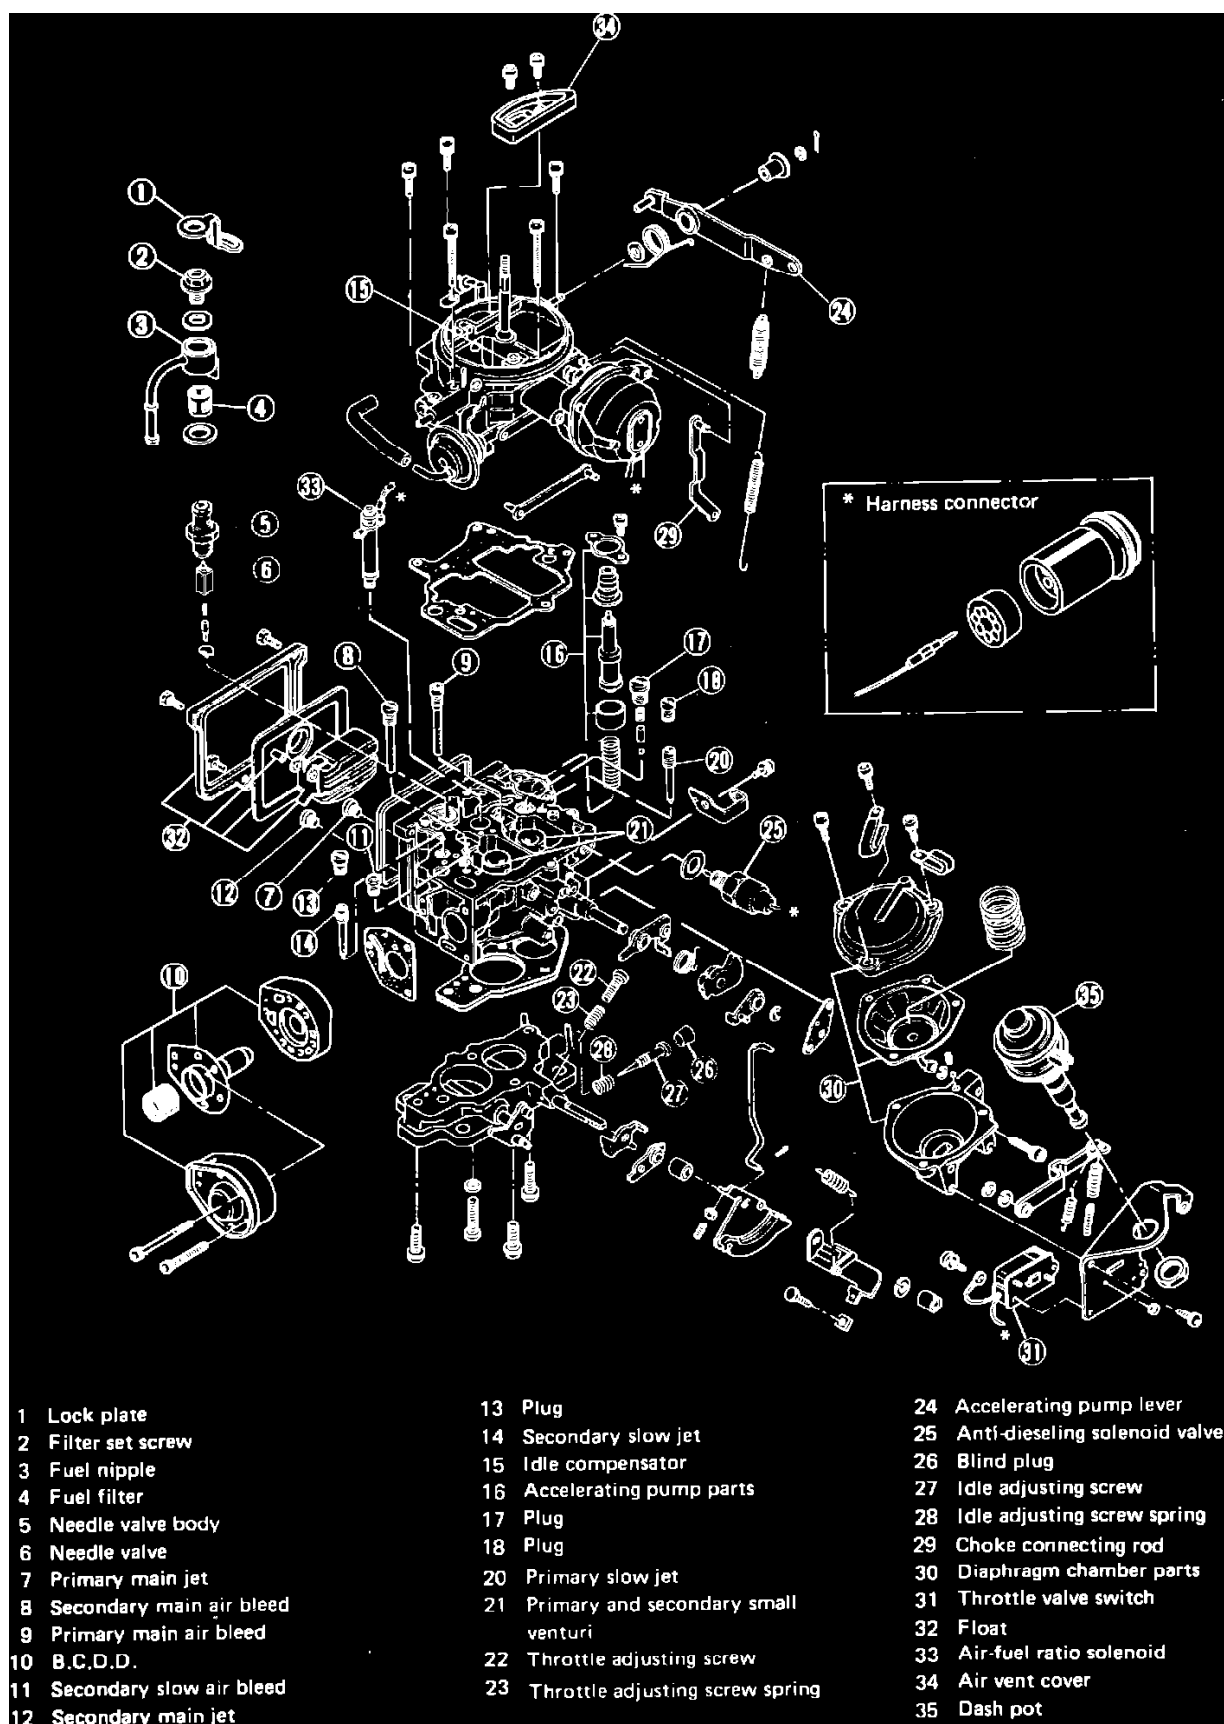

Fig. 2 DFP-342/384 carburetor exploded view.
1. Disconnect accelerator pump and choke connecting rods, returns springs and vacuum break hose, then remove springs and hose, **Fig. 2**.